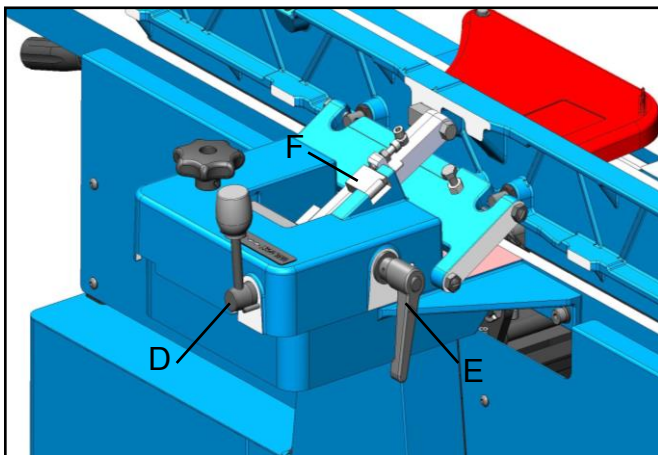

Fig. 19
Fence adjustments are made with the lock knob (D) shown in Fig. 19
1. Loosen locking handle (E), Fig. 19
2. Place a machinist protractor or triangle on the table and against the fence. Adjust the fence to the desired angle and tighten locking handle (E) to secure the fence.
2. Flip back the stop block (F).
3. Adjust the fence to the desired angle and tighten locking handle (E) to secure fence.